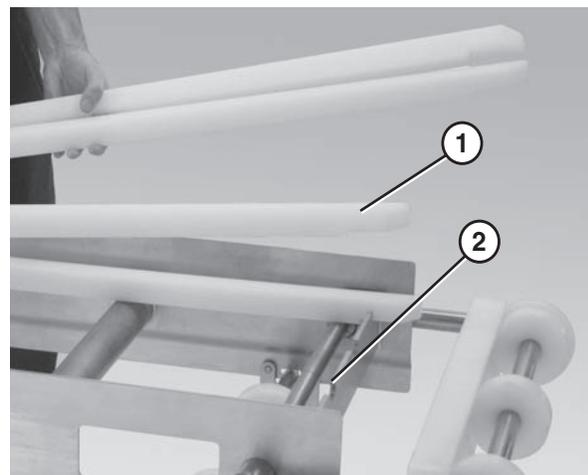

Figure 35
1. Position the wear strips (Figure 35, item 1) on the frame.
2. Make sure the wear strips are situated securely in the frame slots (Figure 35, item 2).